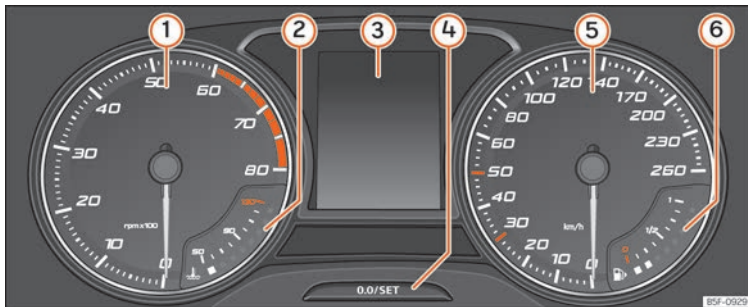

Fig. 54 Instrument panel, on dash panel.
Details of the instruments »»» Fig. 54:
- Briefly press the button  »» Fig. 54